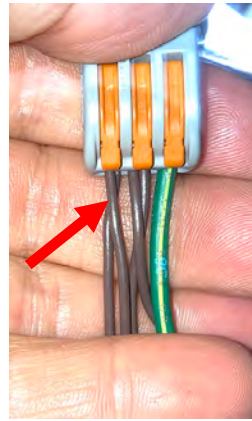

Figure 10
11. Insert the brown wires into the other openings in the Wago snap connector and lock the connector. Tug gently on the wires to ensure the wires are secured into the connector (see Figure 10).